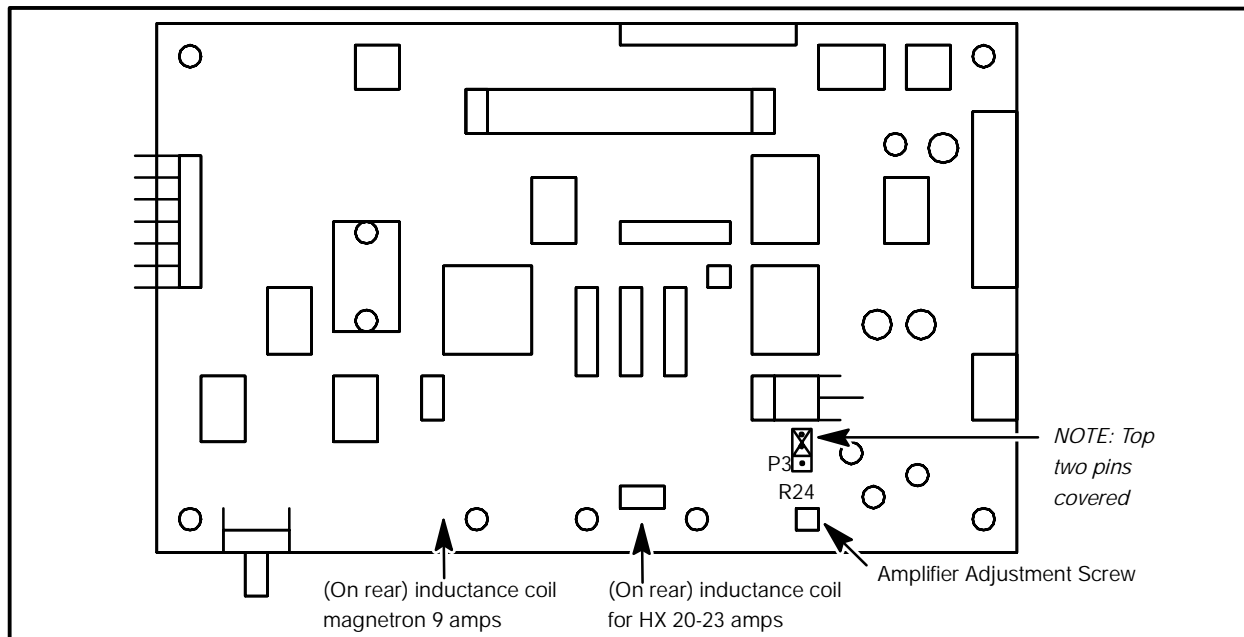

FIGURE 5
3. Press and hold the MGTRON key. Observe the reading on the keypad display. Adjust the amplifier gain on R24 on I/O controller board. Refer to FIGURE 5. Turn the screw clockwise to reduce the output until the maximum reading is  $120 \pm 20$ .